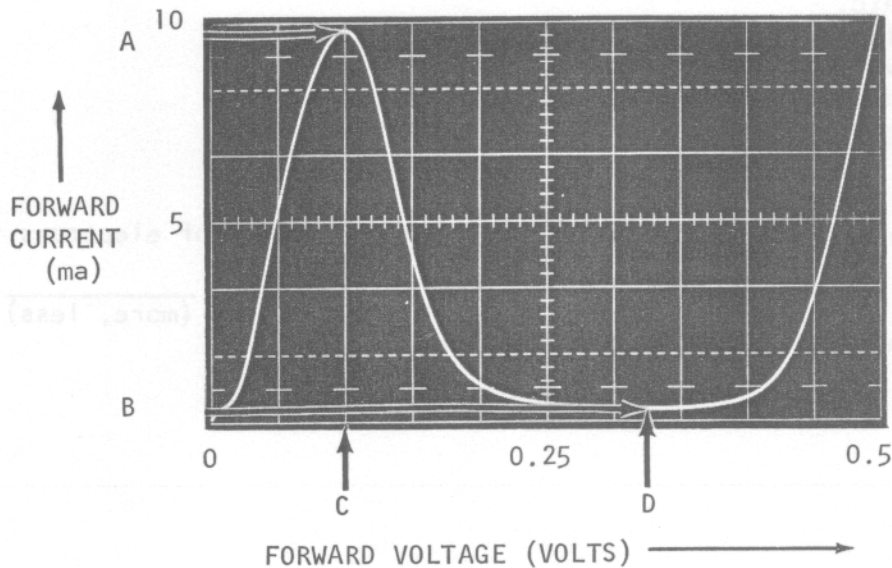

FIGURE 28
28.4 Point B in figure 28 is termed valley current. This is the point of minimum current as the bands uncross. It gets its name because it lies in the _____ between the two slopes.
28.5 Point C in figure 28 is the voltage point at which peak current occurs and is termed _____.